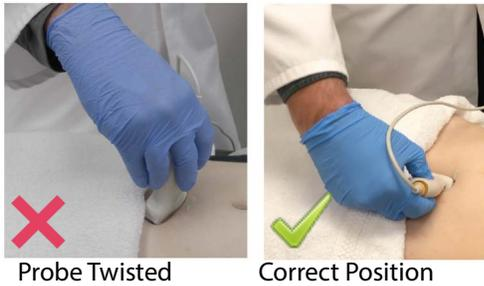

FIGURE 24. Twisting detected
- Do not rotate the probe during the fanning motion (see FIGURE 24. Twisting detected).